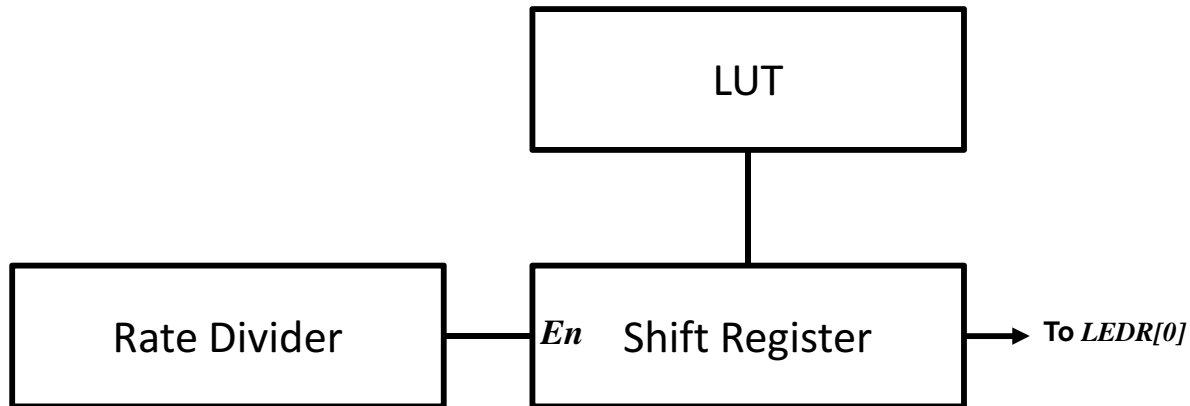

Figure 4: Block diagram of the Morse code circuit
display the pattern on the LED, one bit at a time (0.5 seconds per bit). To do that, you need to load the pattern into a shift register (with parallel load). Then, you need to shift the pattern out of the register, one bit at a time, and display each bit on the LEDR[0] for the appropriate interval (0.5 seconds per bit). A high-level block diagram of the circuit you are building is shown in Figure 4. Note that various details/connections are not shown there.
2. Design your circuit by first drawing a schematic of the circuit. Think and work through your schematic to make sure that it will work according to your understanding. You can use Figure 4 as your starting point. You should include the schematic in your prelab. **(PRELAB)**